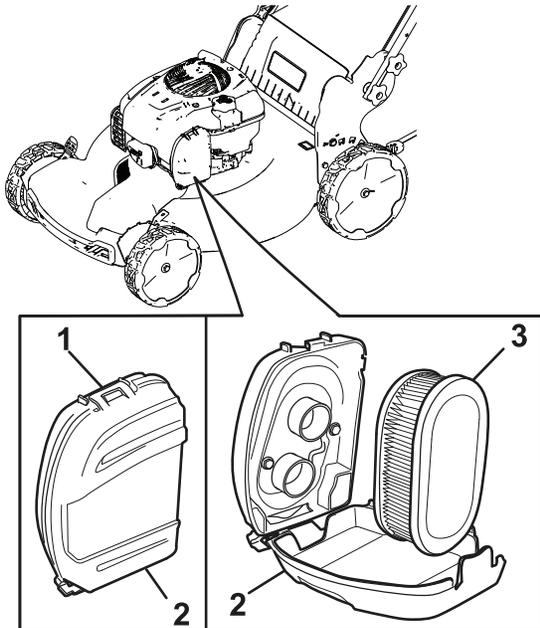

Figure 19
1. Unclip the top of the air-filter cover (Figure 19).
2. Remove the air filter (Figure 19).